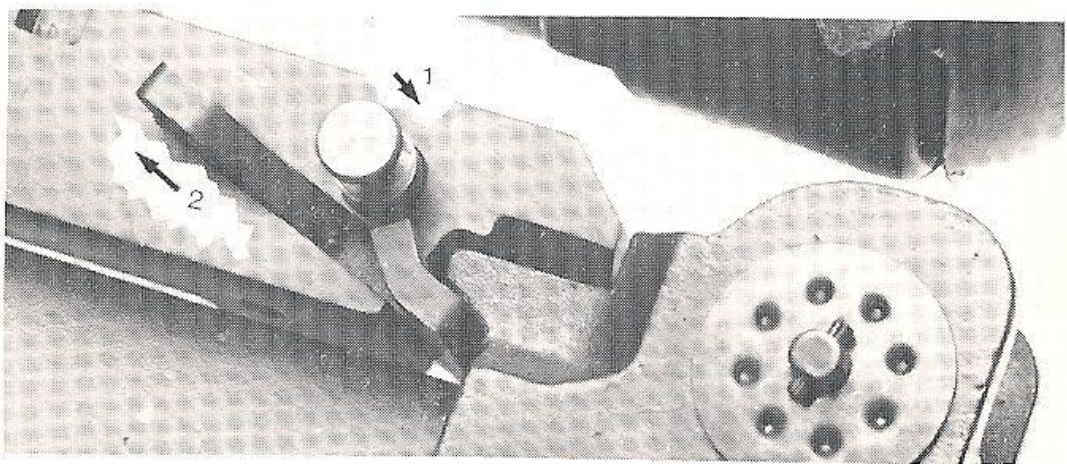

Fig. 53
- Press the support locking catch (1 - fig. 53) and pull the support locking bar forwards and to the side (2 - fig. 53)